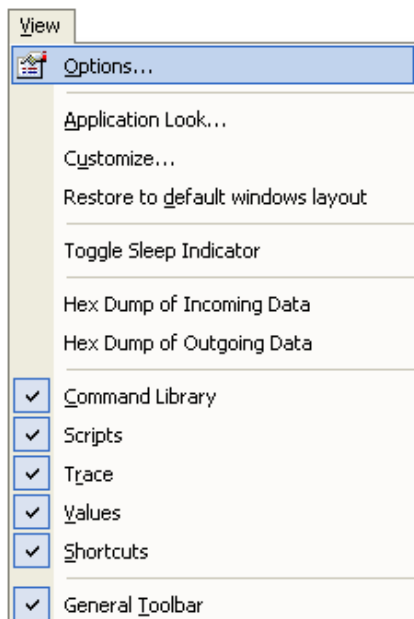

Figure 5: Open Options Window
- 1 In the **Options** window select the HCILL Sleep Type (to open this window you may refer to Figure 5). The following figure shows the selection of the **HCILL Sleep Type** from the dropdown box.
All other common functions, such as **New**, **Open** and **Save** apply to script files and are handled in the same way as in any other standard editors with corresponding menus. The font used on the **Editor** panel can be modified in the **Options** window in the **Editor** tab as shown below. To open the **Options** window, you may refer to Figure 5.
- Select the **Trace** tab under the **Options** window, as shown below. For a description of how to open the **Options** window, you may refer to Figure 5.
- Select the **Log** tab under the **Options** window, as shown below. For a description of how to open the **Options** window, you may refer to Figure 5.